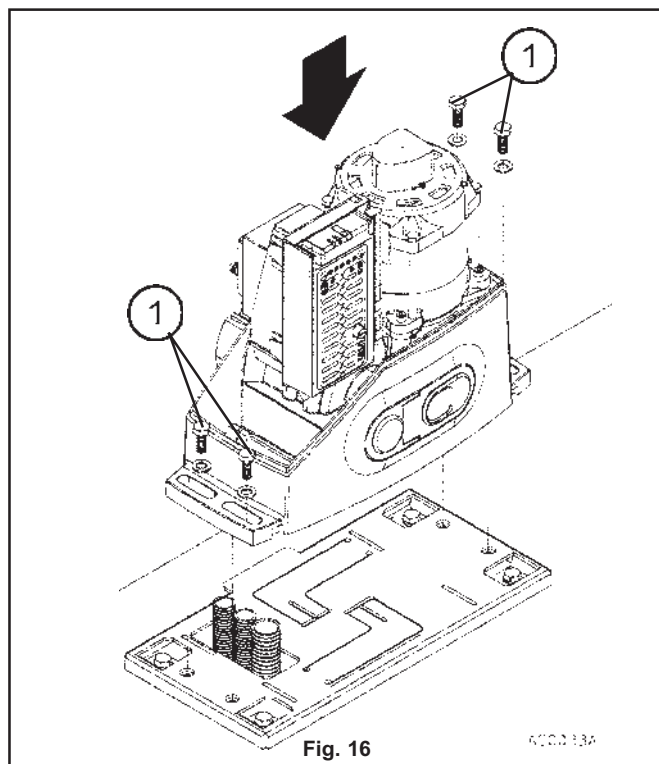

Fig. 16
- c) Rest the operator on the base plate (fig. 16) and manually turn the four M10 screws and respective washers through 3-4 turns (1 fig.16).